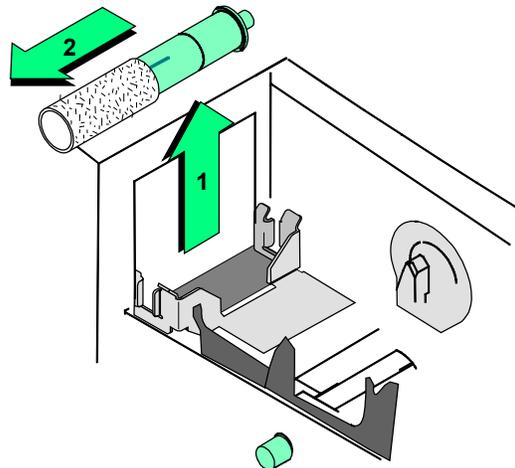

Figure 4-4: Lift the roller out of the printer
- 5 Lift the continuous cleaning roller unit out of the printer (step 1 in Figure 4-4).
- 6 Slide the used sleeve off the cleaning roller spindle (step 2 in Figure 4-4). Discard the used sleeve.